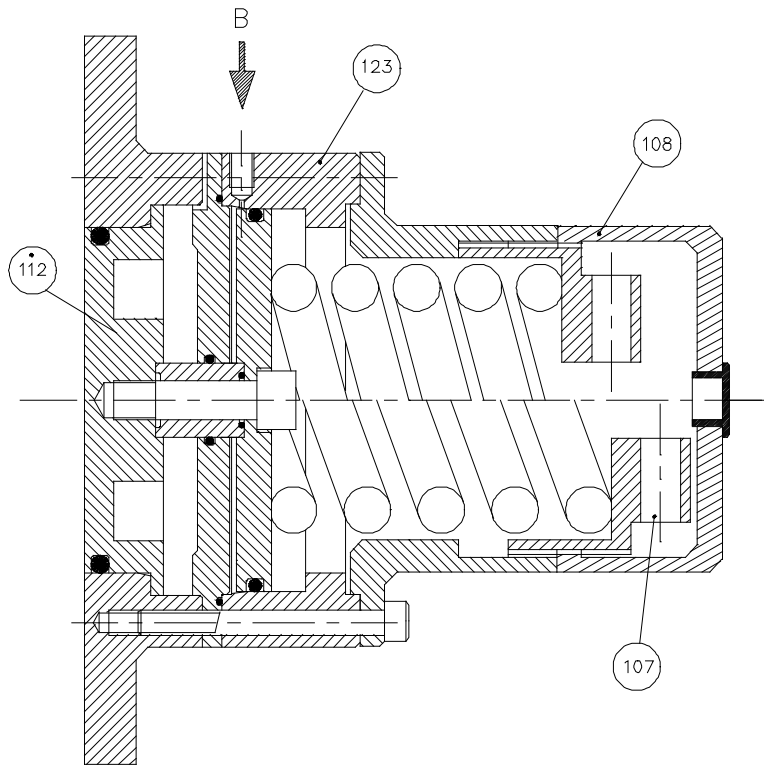

Fig 13 Spring Loaded Integral Pressure Relief Valve with Air Lift CP10, CP20 and CP30.
Spring Loaded with Air Lift - see Fig 13.
- Unscrew nut (107) using pry bar in holes provided to relieve spring compression. For integral relief valve with airlift, see Fig 13, the air cylinder must be exhausted prior to unscrewing the nut (107).
- Screw in nut (107) using pry bar in holes provided until the required pressure relief setting is reached.
For Integral Relief Valve with Air Lift - see Fig 13.